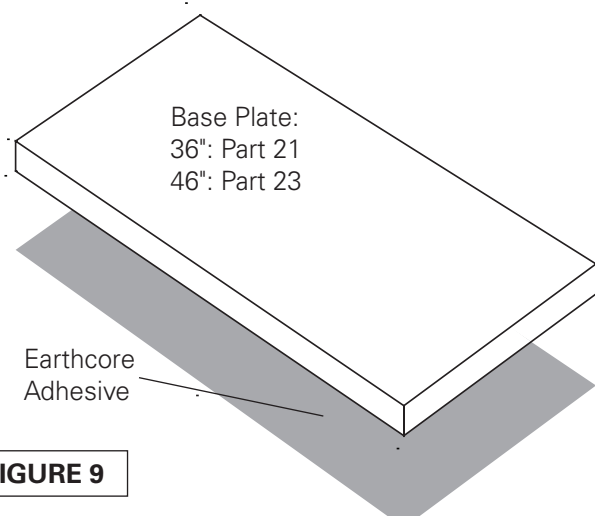

FIGURE 9
1. Set the base plates in a full bed of Earthcore Adhesive on a level support surface. See page 11 for supporting floor system. **(Figure 9)**. Do not set the base plate so that it is in span.